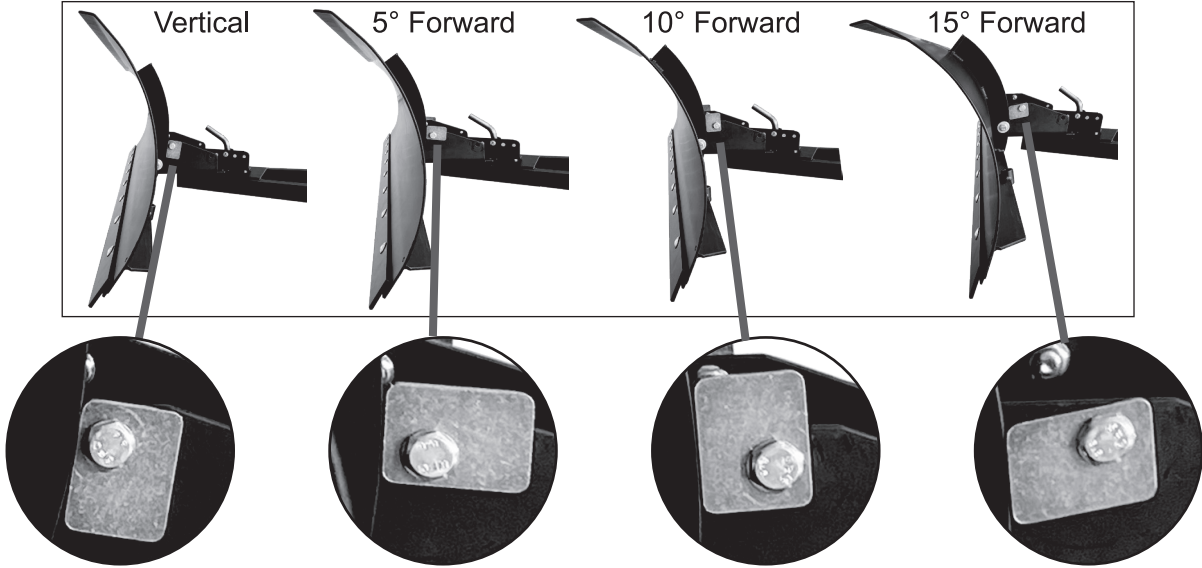

Fig. 5 - Blade Pitch Cam
3. With the U-bolts as far apart as possible, place one Vertical Mounting Bracket (2) onto the U-Bolts with the Carriage Bolt (6) threads pointing down. Place a Flatwasher (9) and Locknut (10) on each U-Bolt thread (total 4 each). Thread the locknuts so they are touching the Vertical Mounting Bracket (2), but do not tighten. Repeat this for the other Vertical Mounting Bracket.
4. Place the Horizontal Mounting Bracket (1) onto the two Carriage Bolts (6). Place two Flatwashers (7) onto the Carriage Bolts (6), then thread the Locknuts (8) so they are touching the Horizontal Mounting Bracket (1), but do not tighten.
5. Tighten the eight Locknuts (10) on the U-Bolts to between 192 and 220 inch-pounds.
6. Use a framing square and check that the Horizontal Mounting Bracket (1) is perpendicular with the frame of the vehicle. Tighten the two Locknuts (8) to between 55 and 65 foot-pounds.
7. With the Push Bar (15) in the correct orientation, place the ears of the Push Bar (15) onto either the front or rear slots on the Horizontal Mounting Bracket (1). Pin in place using the quick release Clevis Pins (11), and install the Hairpins (12) on both Clevis Pins (11) to prevent them from falling out.
STEP 6: Install the Blade onto the Push Bar. Place an Oversized Flatwasher (29) onto the two Bolts (27), then place the Blade (16) onto the Swivel Index Plate (13). Align the holes and insert a Bolt (27) from the outside. Place a Spacer (29) over the threads of the Bolt (27) and seat the Spacer (29) into the hole. Place another Oversized Flatwasher (29) onto the bolt, then thread the Locknut (30) onto the bolt, but do not tighten. Repeat this for the other side. Tighten these two Bolts (27) and Nuts (30) to between 55 and 65 foot-pounds. Check that the Blade (16) can be pitched forward and back. If not, then check the position of the Spacer (29).
The Pitch Adjustment Cam (33) allow the pitch of the blade to be adjusted forwards or backwards. Note that the hole on the cam is offset. These Cams act as a stop for the Blade's backwards pitch and allow the blade pitch to be placed in 4 positions (Fig. 5).